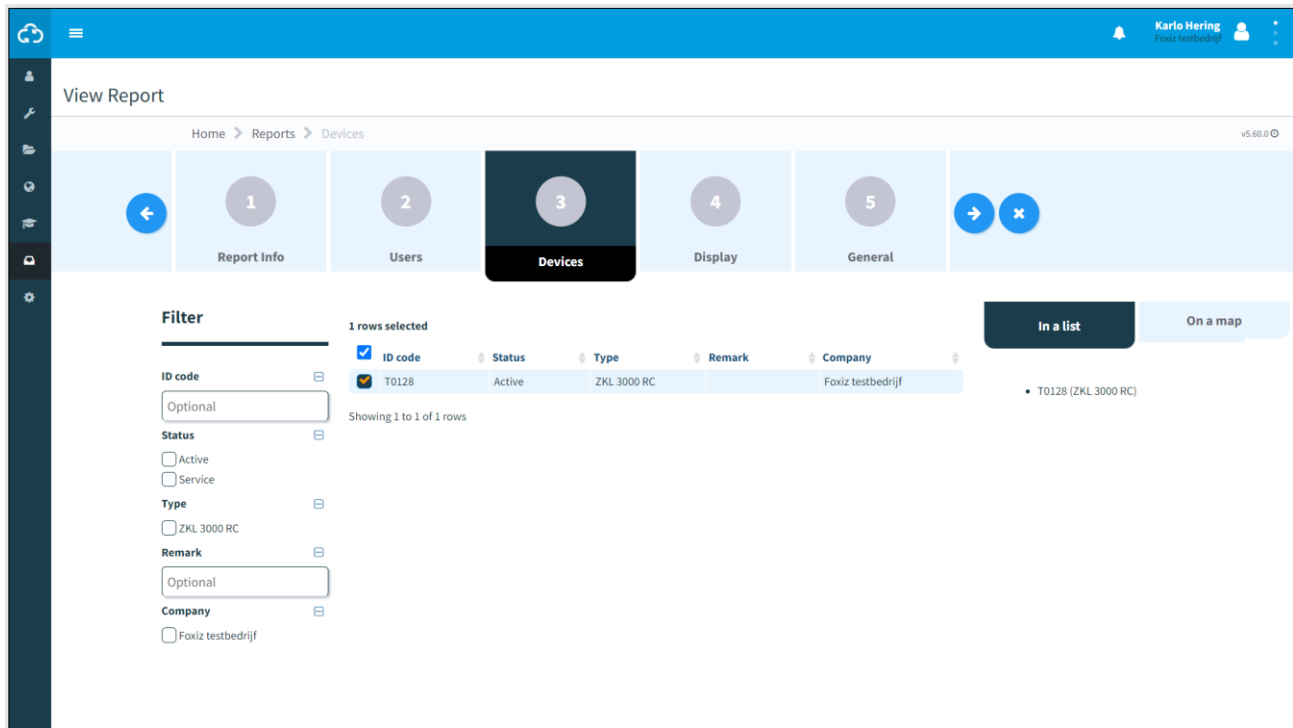

Figure 9-4: View report - devices
- Step 1 - Devices (Figure 9-4);